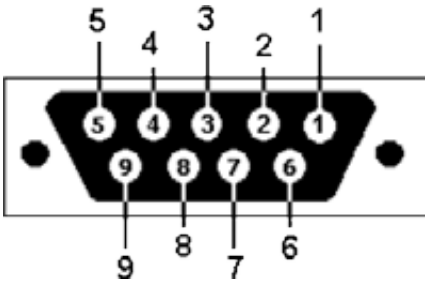

Figure 6-20. MRU External Alarms Connector Pin Out
- 1. Connect the external alarms cable (ordered separately) to the chassis’s DB9 “External Alarms” connector. Refer to Table 6-5 and to Figure 6-20 for pin out information.